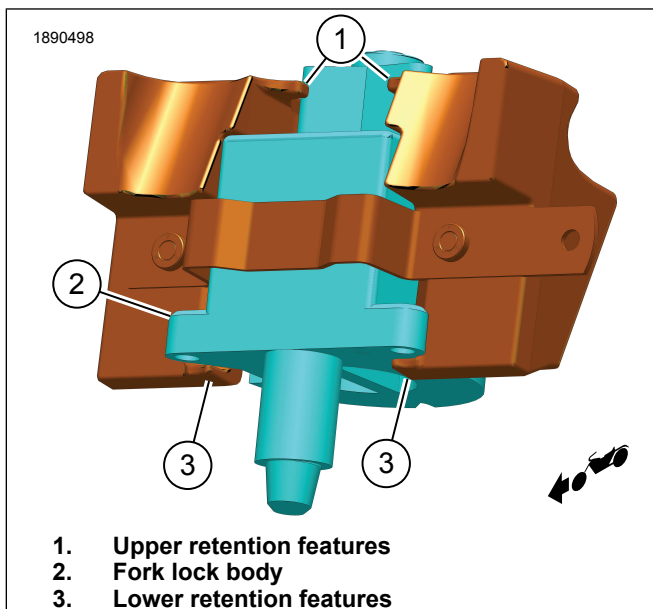

Figure 2. Retention Features
- See Figure 2. Verify upper and lower retention features (1 and 3) are positioned properly.